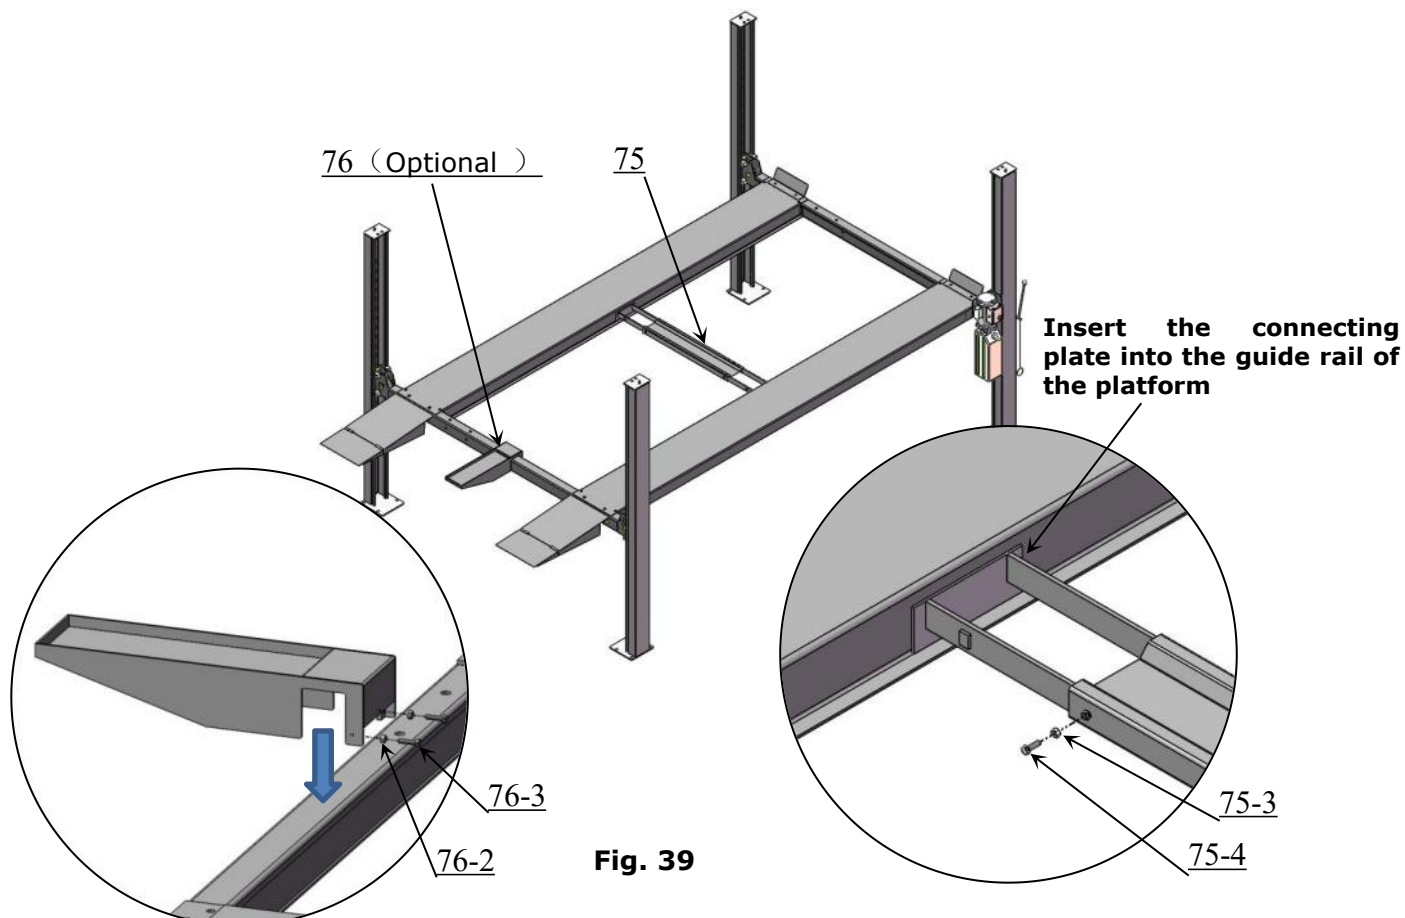

Fig. 39
O.Adjustable trailer platform and trailer extended platform (See Fig. 39)